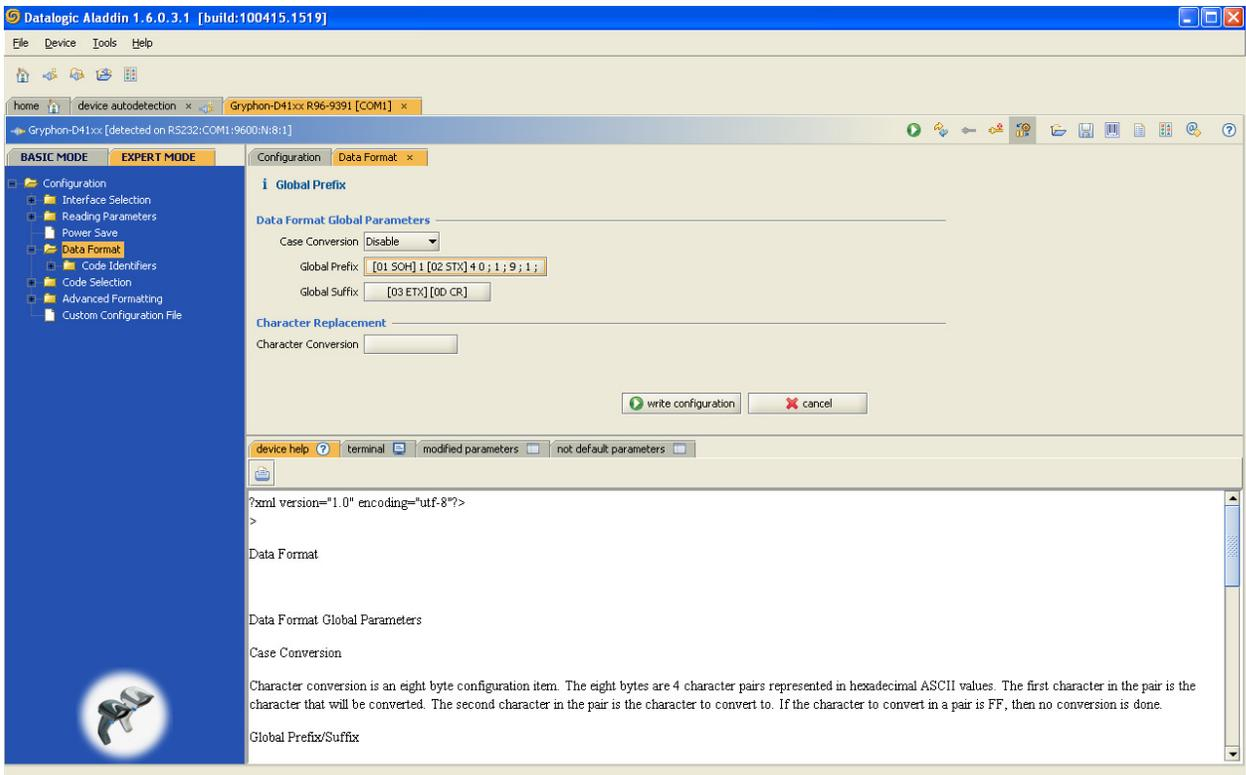

Figure 5. Data Format
6. On the left hand tree menu, select “Data Format” (refer to Figure 5)